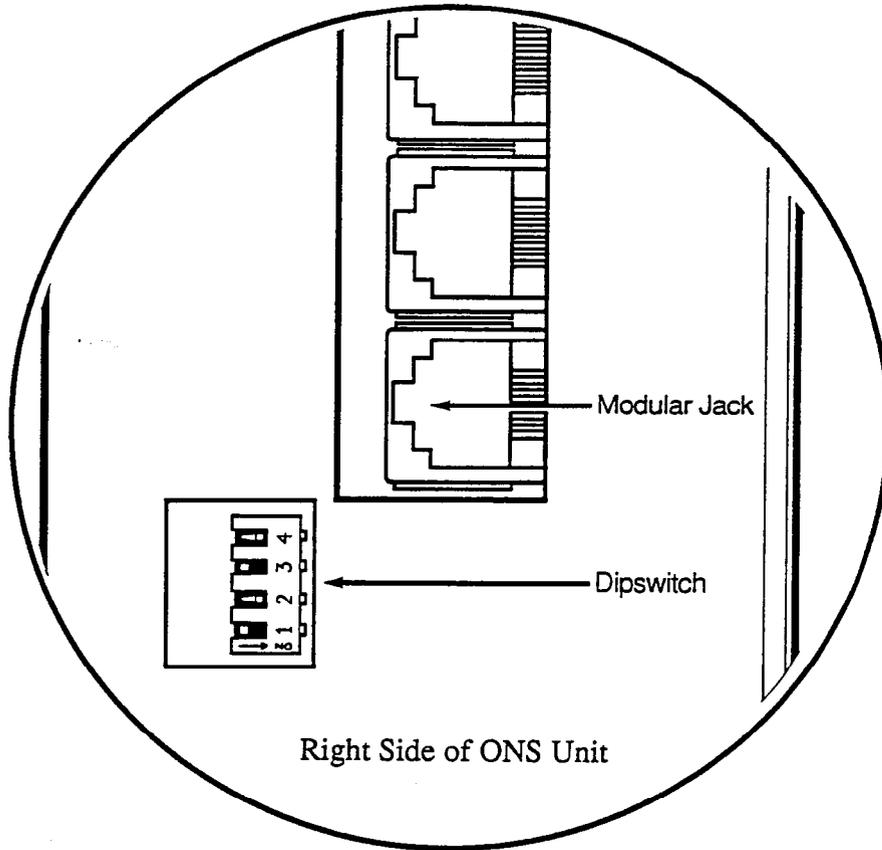

Figure 3-5: On Premise Station Unit Dipswitch
- Step 8** Adjust the dipswitches located on the right-hand side of the ONS Unit to set the duration of the Flash/Cancel Recognition (refer to Figure 3-5 and Table 3-8). The duration of the Flash/Cancel Recognition should be set to the duration of the flash/cancel signal that is produced by the ONS devices. Note that the dipswitch settings determine the Flash/Cancel Recognition for all four ONS stations (i.e., you can't set a different Flash/Cancel Recognition for each ONS station).
You can set the ONS Flash/Cancel Recognition time to correspond to the Flash/Cancel signal produced by the ONS device by adjusting the dipswitch located on the right-hand side of the ONS Unit (refer to Figure 3-5 and Table 3-8).